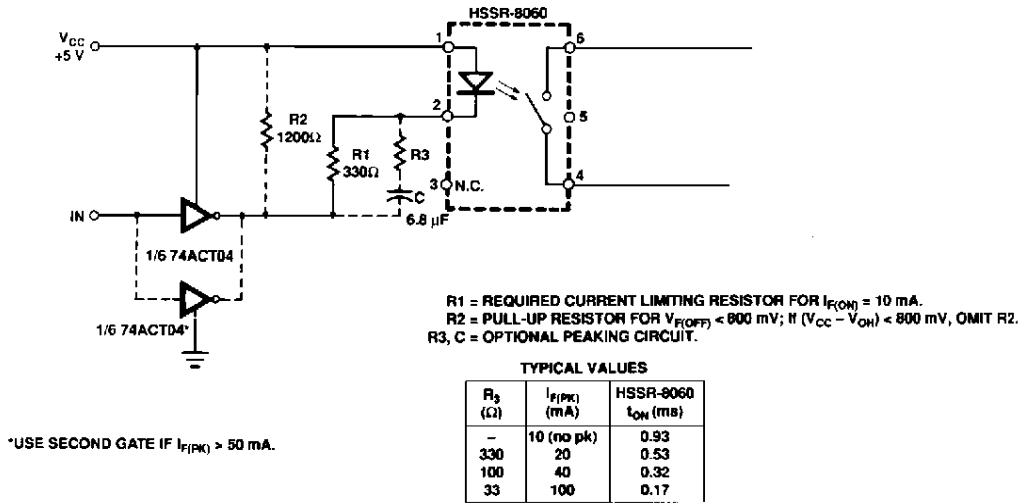

Figure 2. Recommended Input Circuit.
7. For a faster turn-on time, the optional peaking circuit shown in Figure 2 may be implemented.
For applications which are sensitive to turn on time, the designer should refer to Figures 20 and 21. These figures show that although there is very little variation in t_{ON} within most of the population, a portion of the distribution will vary with use. The optional peaking circuit shown in Figure 2 can be used to reduce the total turn on time and, consequently, any associated variation.